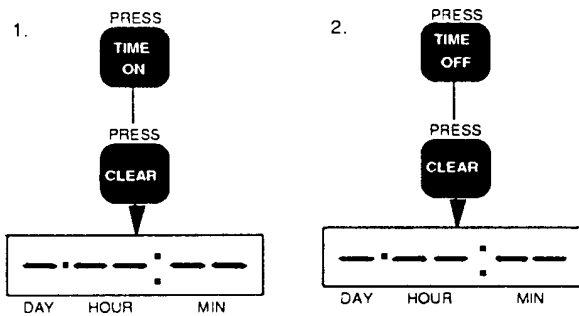

Fig. 2
Clear memory of existing programs: **1.** Press **TIME ON** followed by pressing **CLEAR**. Repeat this step eight (8) times. The display will show all bars. **2.** Press **TIME OFF** followed by pressing **CLEAR**. Repeat this step eight (8) times. The display will show all bars. See Fig. 2.